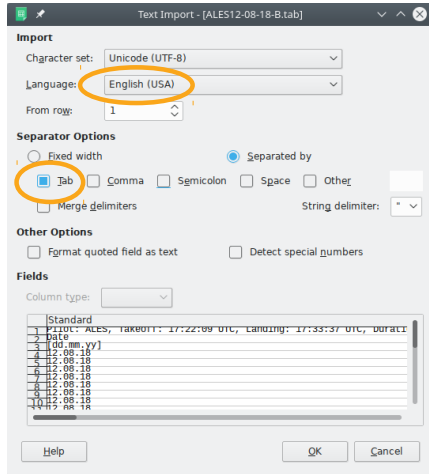

Figure 17: An example of Calc Text Import window.
5. Calc detects that a text file is being imported and it opens a window as shown on Figure 17. Please make sure that the *Tab* option is selected as the separator and *English (USA)* as the language. This makes sure that decimal values are properly imported.